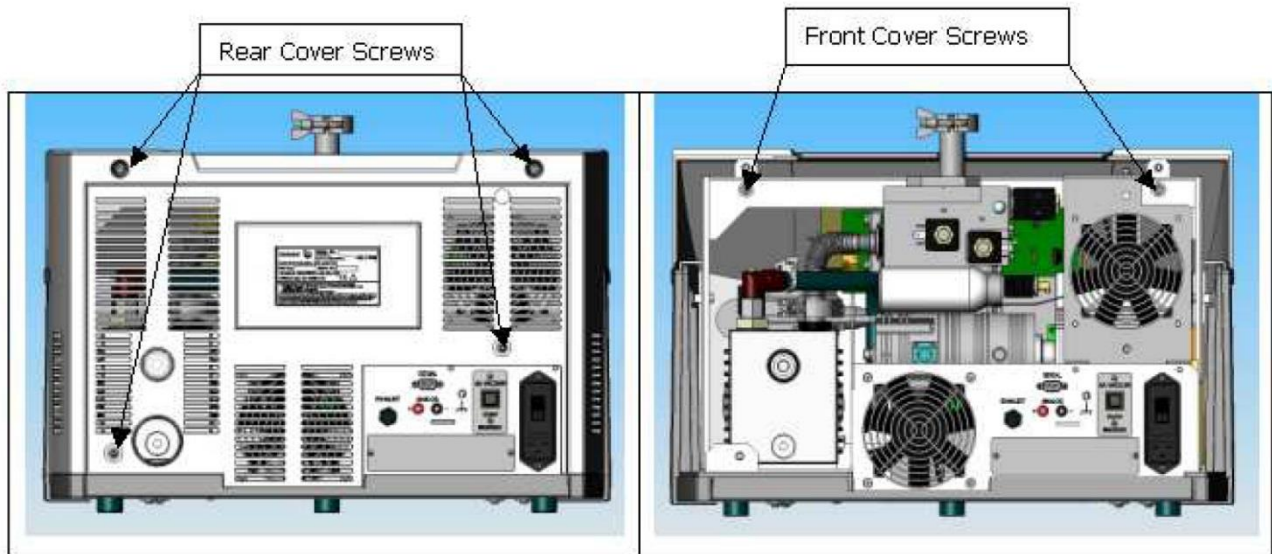

Figure 1: Rear and Front Cover Screws
- 3) Using an extended length M5 Allen wrench, remove the four screws holding the rear plastic cover (Figure 1: Rear and Front Cover Screws) and detach the rear plastic cover from the unit.
- 4) Remove the four screws holding the front plastic cover and detach the cover from the unit. Two screws are situated at the front of the unit (not shown) and two screws are positioned inside the unit (Figure 1: Rear and Front Cover Screws).